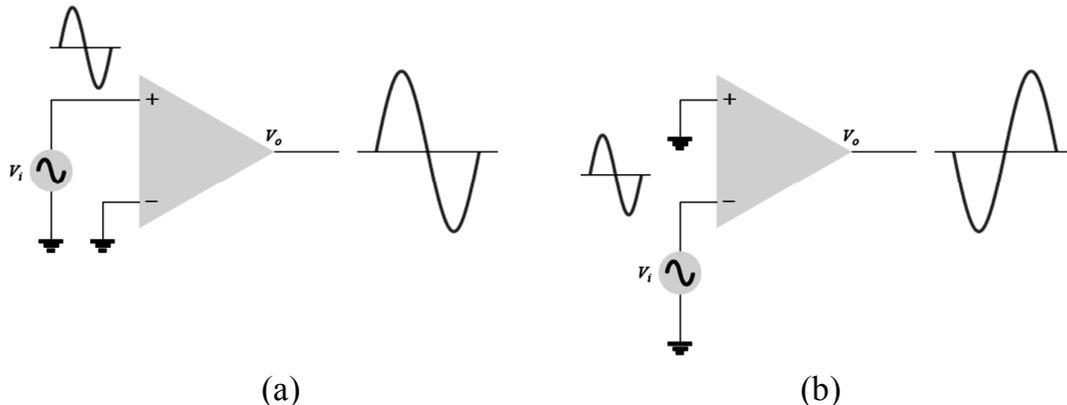

Fig. 1-4
**Single-Ended Input:** Single-ended input operation results when the input signal is connected to one input with the other input connected to ground. Fig. 1-4 shows the signals connected for this operation. In Fig. 1-4(a), the input is applied to the plus input (with minus input at ground), which results in an output having the same polarity as the applied input signal. Fig. 1-4(b) shows an input signal applied to the minus input, the output then being opposite in phase to the applied signal.